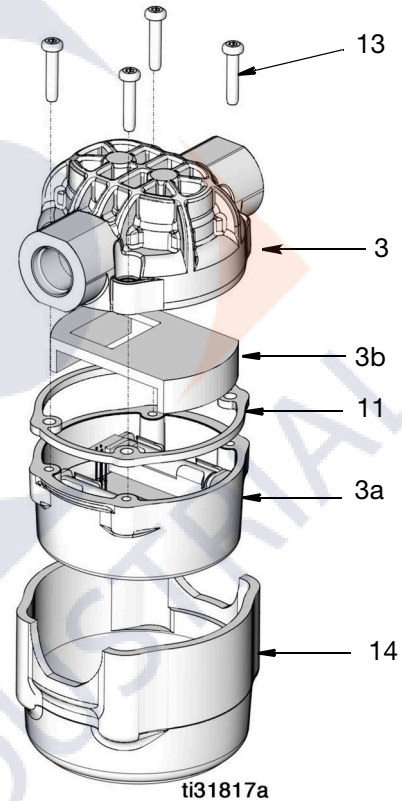

FIG. 14
2. Remove impact guard (14) (FIG. 14).
3. Remove the 4 screws (13) from the meter (3) housing, and remove the electronics bezel (3a) (FIG. 14).
4. Remove battery retainer (3b) (FIG. 14).
7. Reinstall battery retainer (3b) (FIG. 14).
8. (Reinstall the bezel seal (11) over the lip on the top of the metering unit (3). Place electronics bezel (3a) onto bezel seal (11) (FIG. 14).
9. Reinstall screws (13) (FIG. 14). Tighten the screws in a diagonal pattern to 15-25 in-lbs (1.7-2.8 N-m).
10. Reinstall the impact guard (14) (FIG. 14).